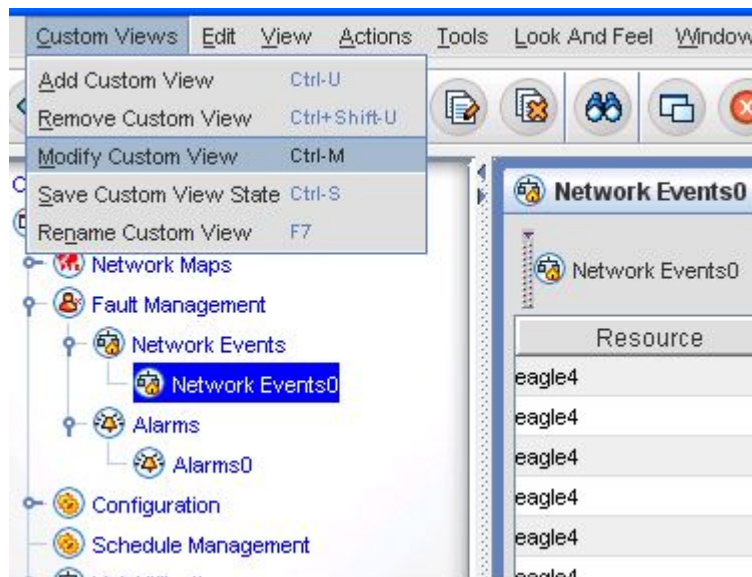

Figure 192: Modify Custom View By Using Menu Bar
- From the **Custom Views** menu in the top menu bar, choose **Modify Custom View** as shown in Figure 192: Modify Custom View By Using Menu Bar.